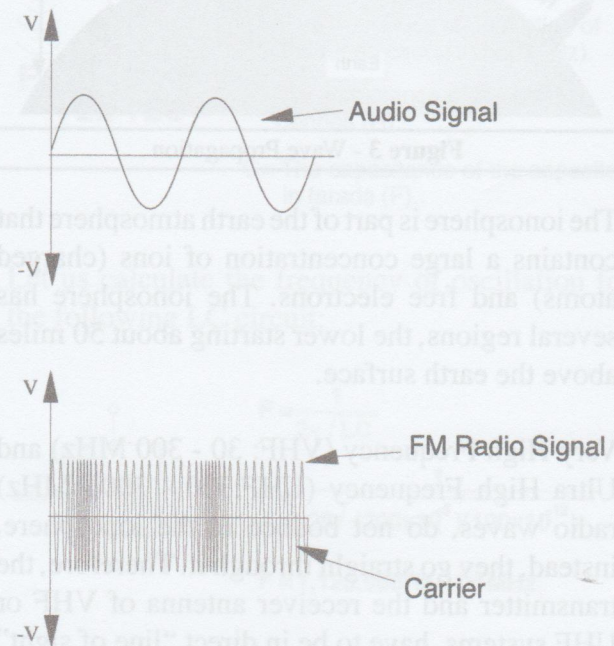

Figure 2 - Frequency Modulation (FM)
In frequency modulation (FM), the modulating signal (audio signal, for example), controls the frequency of the carrier (high frequency signal), as shown in figure 2.